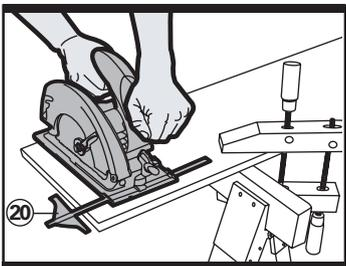

Fig 8
- c. Position the saw over the marked area with the front edge of the base plate resting on the work surface and cutting guide aligned with marked line on work-piece (See Fig 8).
- d. Ensure the blade is not touching but is close to the work surface. The moving lower guard must be rotated open by using lever (5).
The parallel guide is used for making cuts parallel to a work-piece edge at a chosen distance. Slide the parallel guide (21) arm through both fixtures (19) to achieve the required cutting distance and tighten screw to lock into position (See Fig 8). It can be used from both sides of the base plate (3). The cutting distance is shown on the guide scale and by using the 90° or 45° notch edge (18) on the base plate (3). Always make a trial cut to check the setting.